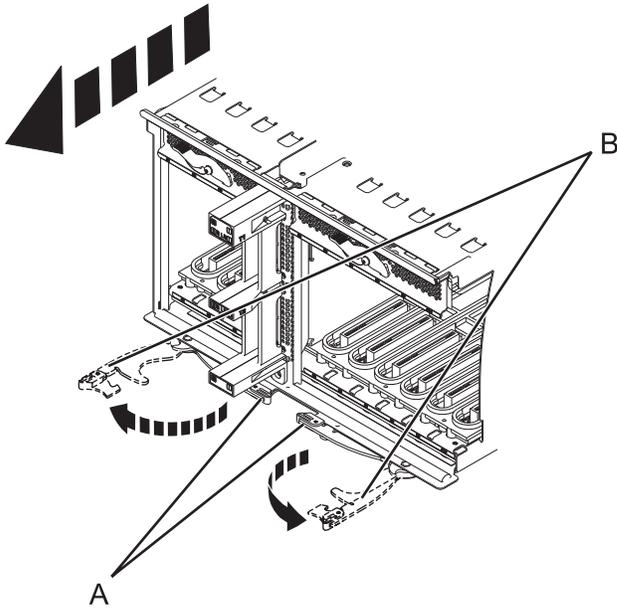

Figure 84. Removing the I/O system board
11. Squeeze the release latches (**A**) and pull the levers (**B**) out away from the system, as shown in Figure 84.